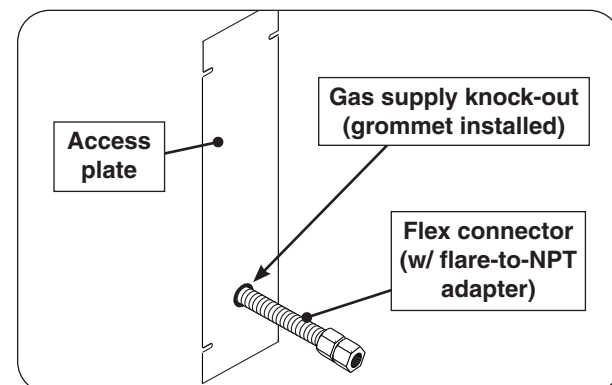

Fig. 21-4 Access plate view & install orientation
2. Remove the plastic grommet (attached to the flex connector) and insert it into the newly created opening. Then route the flex connector through the opening. See Fig. 21-4.